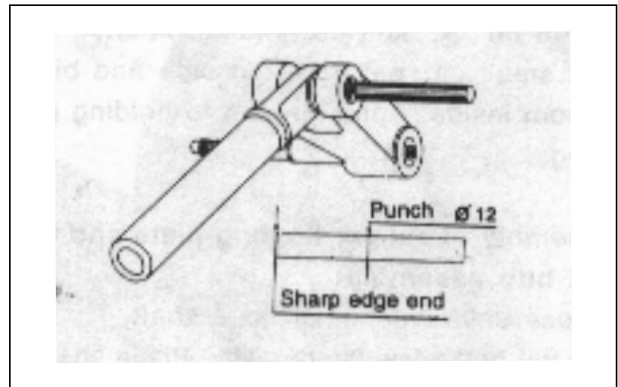

Fig. 204-Punch dia to squash tab washers
- (a) Use punch dia of 12 mm. to squash the tab washers. (fig.204)